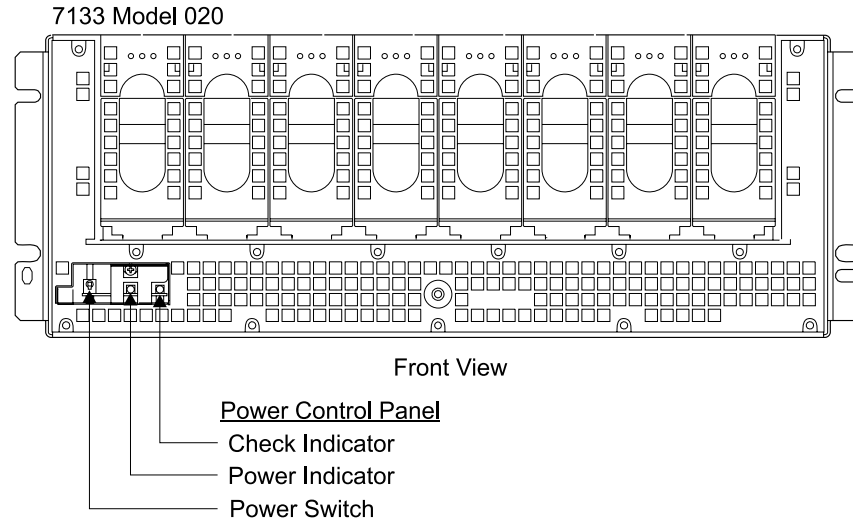

Figure 76. SSA DASD Model 020 Power Control Panel Locations (S008020m)
8. Use Figure 76 on page 161 in the following steps to locate the switch and indicators on the SSA DASD drawer power control panel:
22. Use Figure 76 on page 161 in the following steps to locate the switch and indicators on the SSA DASD drawer power control panel:
24. Observe the SSA DASD drawer amber check indicator on the drawer power control panel, see Figure 76 on page 161.